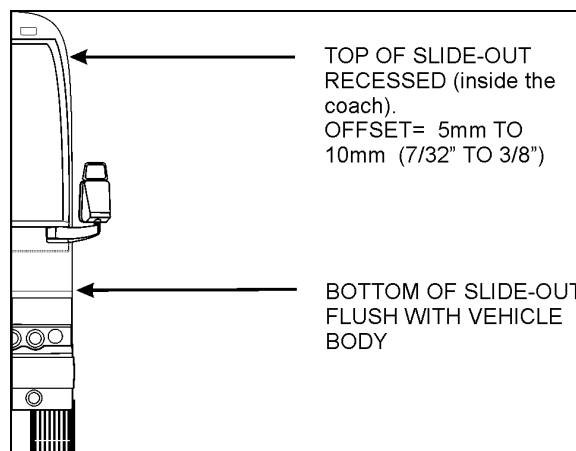

FIGURE 23: TILT ADJUSTMENT
- Using levelling screw 3, adjust the tilt in order to have the top of the slide-out recessed between 5mm and 10mm ($7/32''$ and $3/8''$) (see FIGURE 23).